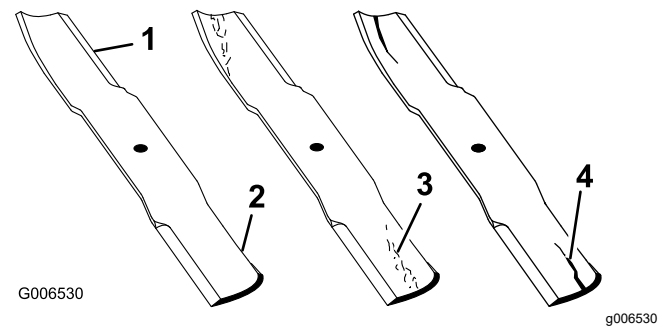

Figure 76
1. Inspect the cutting edges (Figure 76).
4. If you notice any cracks, wear, or a slot forming in this area, immediately install a new blade (Figure 76).